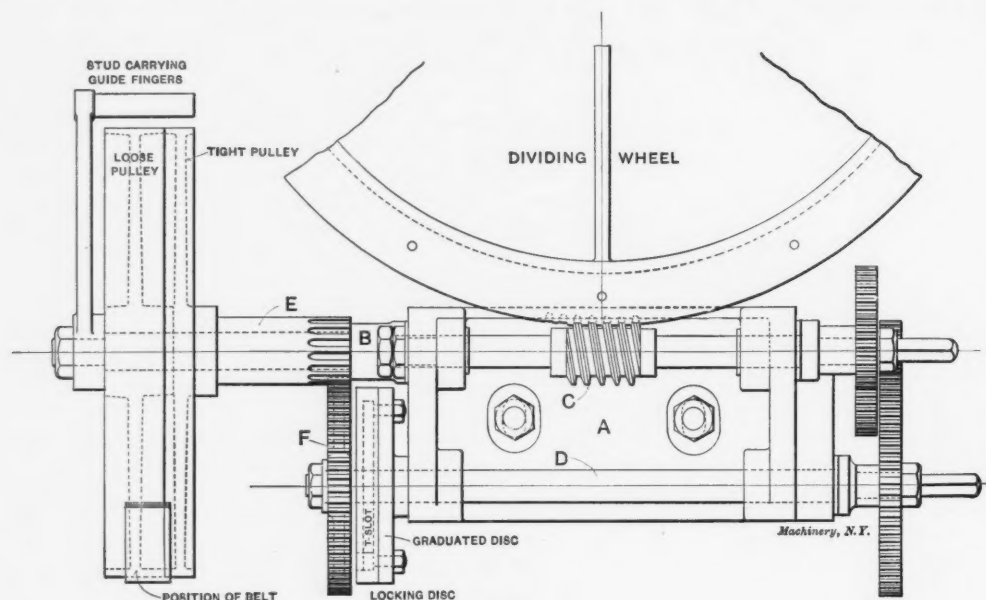

Fig. 2.
The movement of the dividing wheel, which gives the necessary space to the teeth on a blank being cut, is brought about by a series of change gears whose general arrangement is shown in the elevation Fig. 2. A bracket (A) capable of vertical adjustment on the frame of the machine, holds the worm (C) in position with the dividing wheel. This vertical adjustment is designed to take up the very slight wear of the worm against the dividing wheel. Into this bracket is tapped a stud (B) which carries a loose pulley and a tight pulley keyed to gear (E). The position of the driving belt is fixed by guide fingers (adjustable if necessary), and is shown overlapping the tight pulley sufficiently to drive the train of gears during the interval of spacing the teeth, but not so far as to produce undue strain on the gears while locked for tooth cutting. Owing to this unique arrangement of the belt there is a constant pressure against the locking bolt, and when the tooth cutter has completed its cut across the gear blank, the forward feed of the dividing wheel is started on the instant of the release of the locking disc. It has been objected that this system of feed is not "positive," but the record of "not missed a tooth in fifteen years" is ample evidence that this arrangement is satisfactory and has the merit of extreme simplicity.